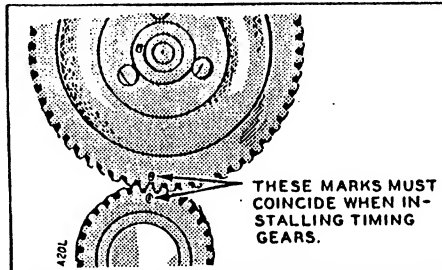

FIG.38- TIMING GEAR ASSEMBLY
**TIMING GEARS.** - The crankshaft gear and the camshaft gear form the timing train. These gears are matched and are sold only in sets. Should either gear need replacing, both gears must be replaced. When installing new timing gears or replacing the old timing gears, the timing marks must be aligned as shown in Fig. 38.